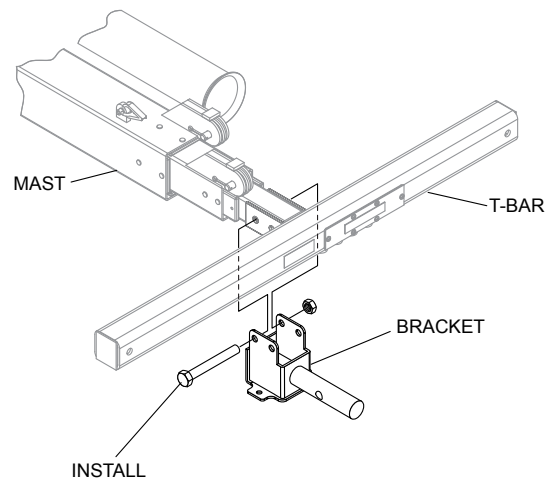

Figure 11. Installing Bracket
2. Install the lamp mounting bracket (Figure 11) onto the T-Bar and mast extension with the new screws and nuts provided.